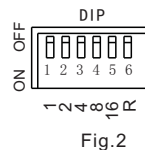

Fig.2
- (1) DIP switches: SW1~SW3 for programs selection, please see Attached Table (1=ON, 0=OFF). SW4 and SW5 are unused; SW6 for remote controller; (see fig. 2)
- (2) Calculation of DIP address code: